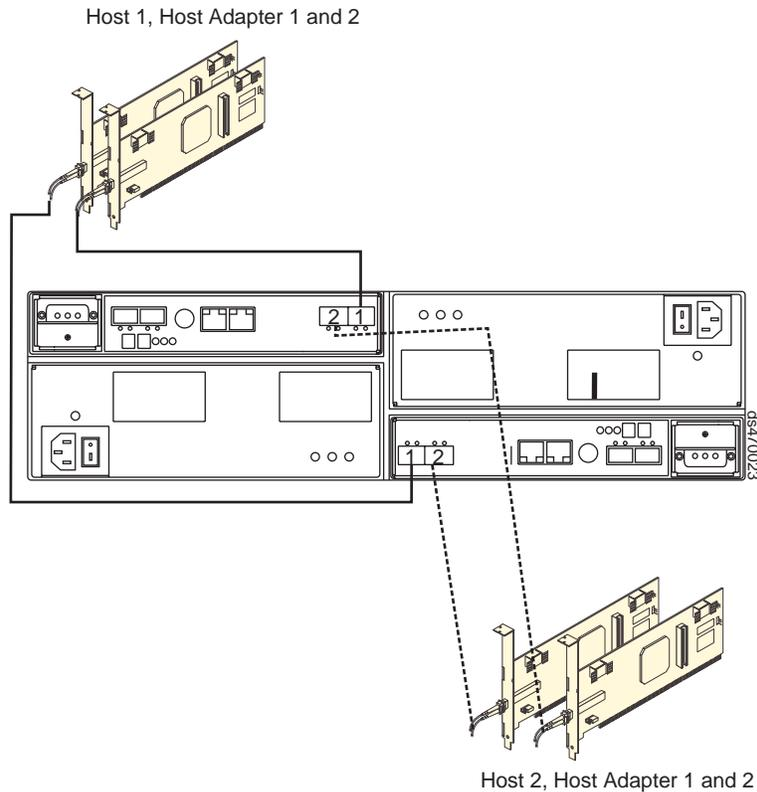

Figure 55. Cabling diagram for two redundant host connections
3. Repeat steps 1 on page 72 and 2 for each additional redundant host connection. You can create a maximum of two redundant host connections for the DS4200 Express Storage Subsystem, as shown in Figure 55 on page 74.
Note: Figure 55 on page 74 shows a connection to a fibre channel host bus adapter in the DS4200 Express Storage Subsystem. You can also connect to fibre channel switch ports (not shown).